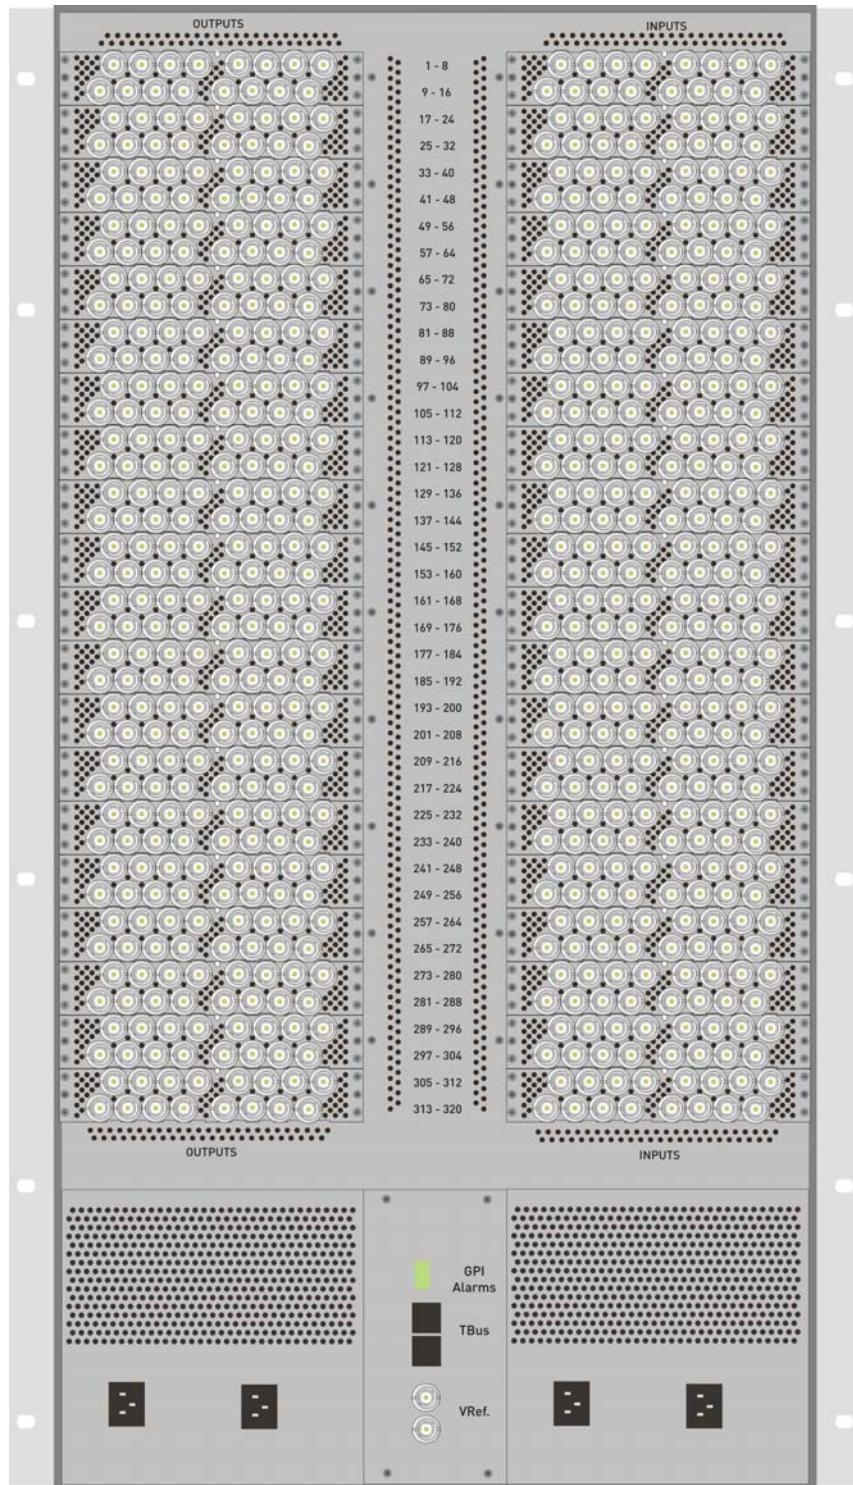

Figure 2.4 Rear panel of the NK-3G320 Routing Switcher
NK-3G320(288)	3G/HD/SD digital video routing switcher, 288 inputs, 288 outputs, expandable in groups of 8 per input card (NK-I3G) and output card (NK-O3G), up to 320×320 4 redundant PSUs, single control interface and matrix card Refer to Figure 2.4 .